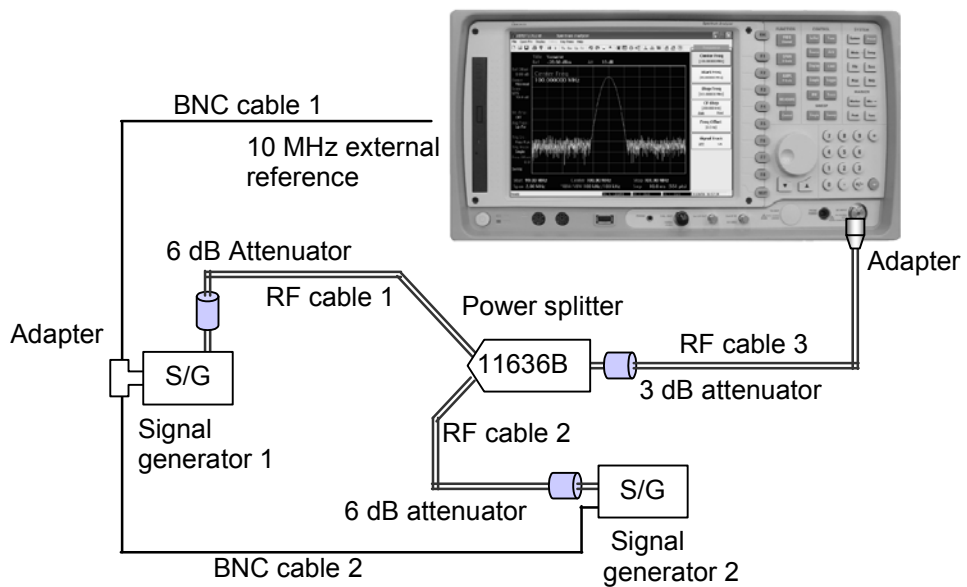

Fig. 6-12 Third-order intermodulation test
- 1 Set up synthesized signal generators as shown in Fig. 6-12.